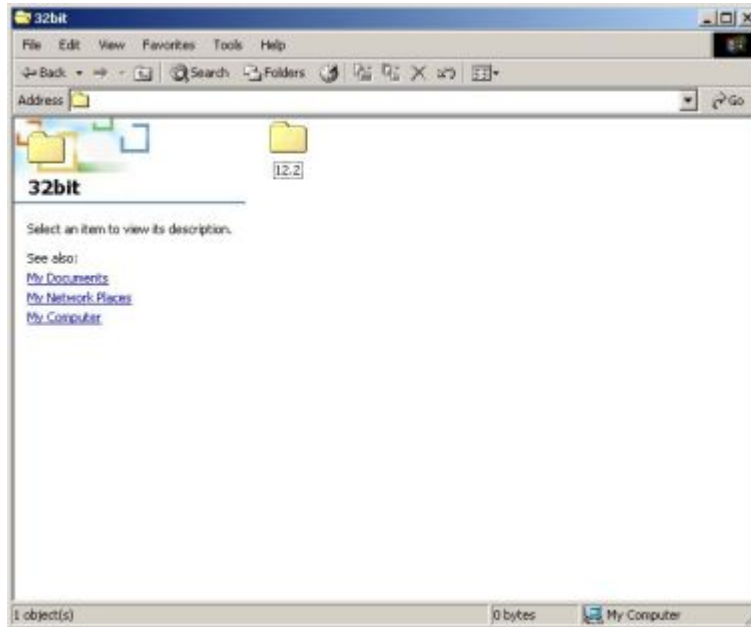

Figure 7-22: Driver Directory
Step 8: The window in **Figure 7-22** appears.
Step 9: Click on the directory icon in **Figure 7-22**.